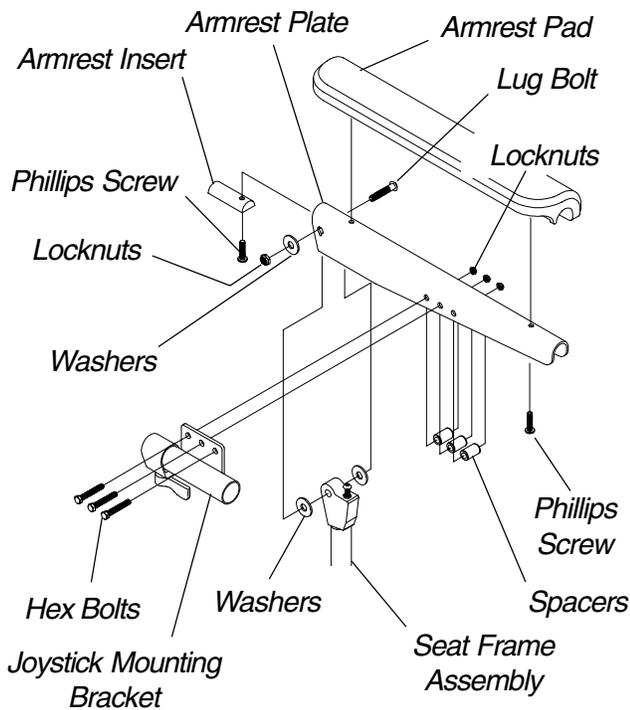

FIGURE 6 - REPLACING ARMREST PLATE
**REPLACING ARMREST PLATE (FIGURE 6)**
- If necessary, remove the three (3) hex bolts, spacers and locknuts that secure the joystick mounting bracket to the armrest plate.